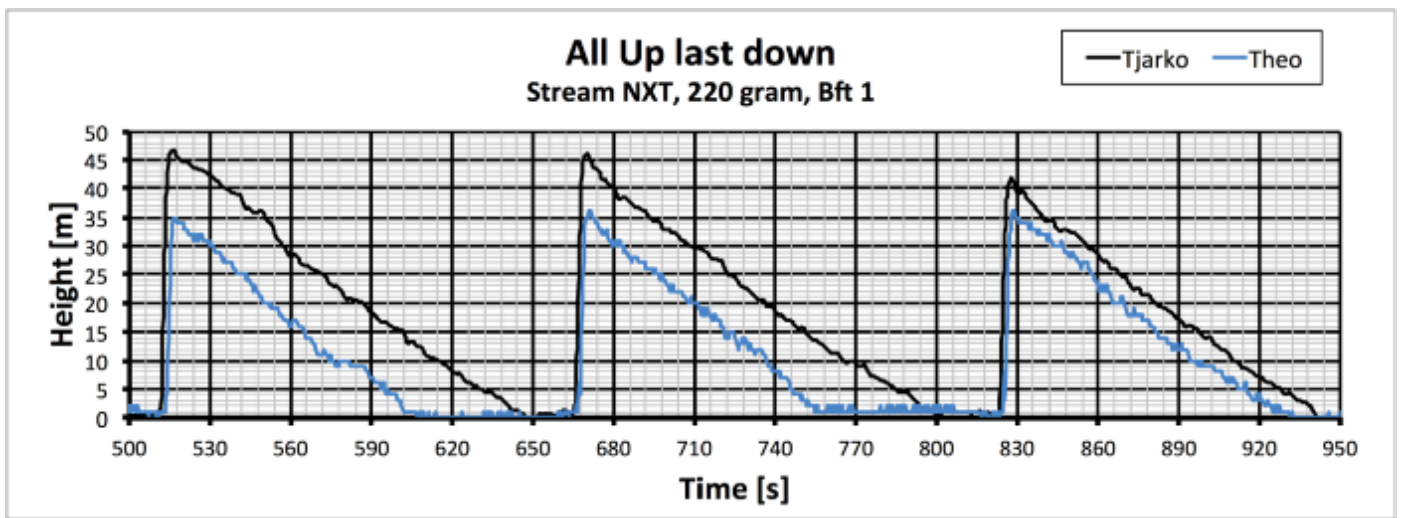

Figure 2 : Comparison of measurement results during an evening with very little wind
We get a launch height of 35 to 45 m (we are better at math than at throwing). Figure 2 shows what that means for flight times on an evening with very little wind. From 45 m height over two minutes is feasible . Now it comes down to whether we are on the right track. Are these good flight times at these heights or is there more to it?
- Measurement errors in sink speed of Figure 2: The air is not 'still' — air can always have some movement in it. And how accurate are the altimeters? Tjarko uses JETI equipment with 0.1 s and 0.1 m resolution. Theo uses an FD-A altimeter with 0.25 s and 1 m resolution. Measurements in still air (as far as possible) give values around 0.25 to 0.30 m/s.